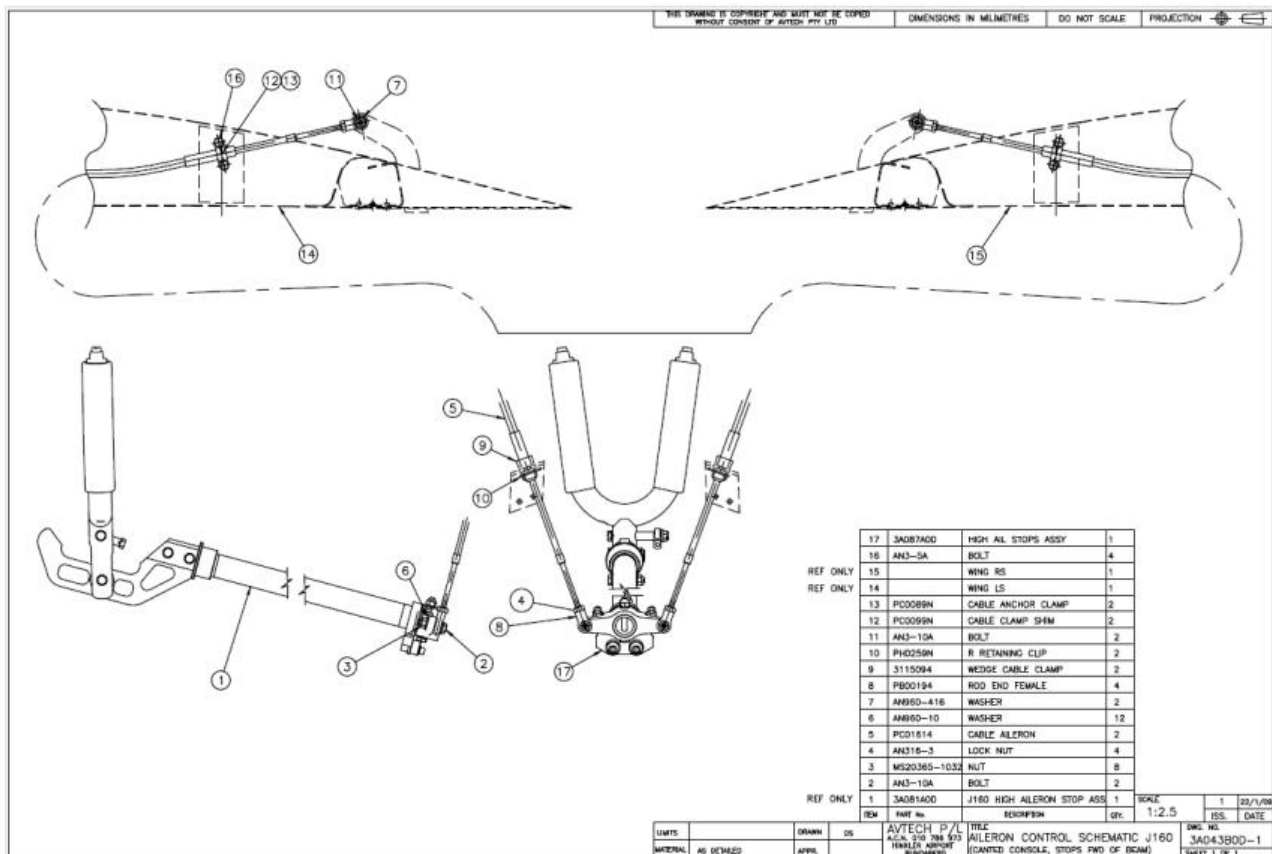

Figure 55 – Aileron System Schematic – Type 3.
- Refer to drawings below: **Error! Reference source not found., Error! Reference source not found.** and Figure 55.